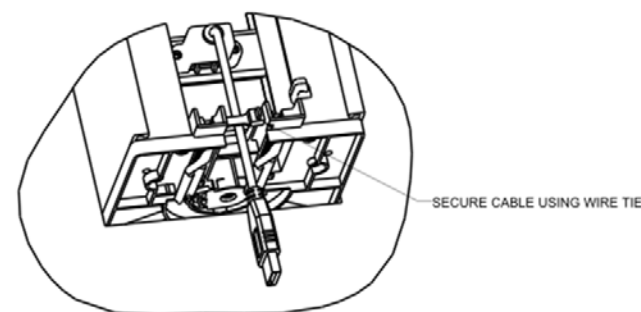

FIG. 8 Bottom view with cables exiting and secured
2. Secure these cables and the power cable to either of the end caps using the supplied wire ties (FIG. 8).